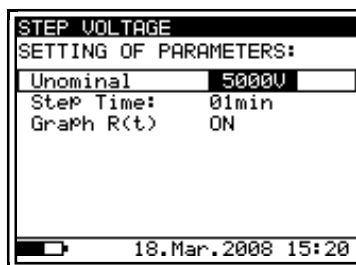

Fig. 25. Set-up menu in Step Voltage Test
- Press the SELECT key, (the Set-up menu (Fig. 25) will appear on the display).